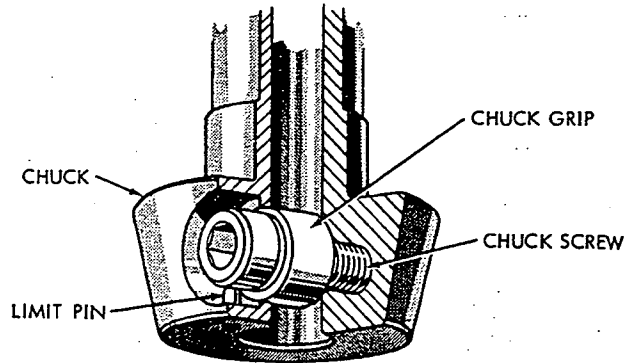

FIGURE 3. CHUCK DETAILS
- 4-2. To install the mixer shaft, back off the chuck screw (refer to Figure 3) as far as the limit pin will allow. **DO NOT FORCE.** Insert the mixer shaft into the chuck bore as far as it will go. For stepped shafts, make sure the shaft shoulder seats tightly against the chuck face. Draw up the chuck screw with the wrench provided, rotating the shaft slightly back and forth to make sure that the chuck grip seats against the flat of the shaft. Tighten the chuck screw with the wrench provided. The wrench has been properly sized to tighten the screw. **DO NOT IMPACT THE WRENCH OR USE AN EXTENSION.** NOTE: A safety feature is provided by a slight taper in the flat on the mixer shaft. The shaft cannot drop out unless the grip is intentionally released.